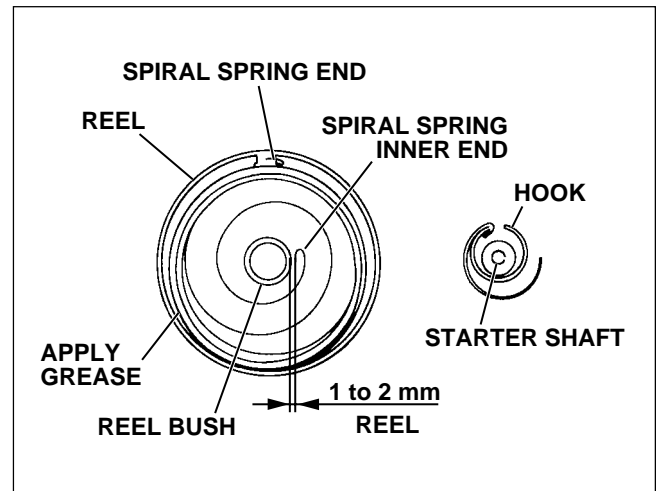

Fig. 9-4
- (2) Check that the spring is securely set in the reel and form the spring end to have 1 to 2 mm clearance between inner end of the spring and the reel bush so that the inner end catches the hook securely as shown in Fig. 9-4. The shape of spring inner end (approx. 10 cm from the end) can be adjusted with plier if necessary.
Refer to Fig.9-4 for which way the spiral spring must be placed.